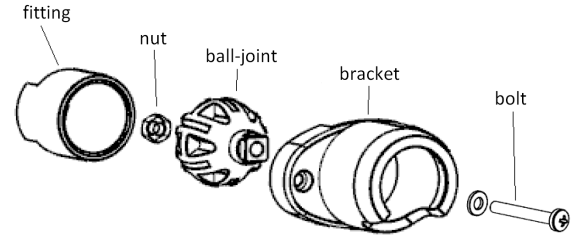

Figure 3: Mount Bracket Structure
4. Having selected the mounting location, mark the positions of the fixing holes on the wall taking into account positions of mounting holes in the rear housing or mount bracket (see Figure 3) and drill holes at the marked places.
7. Attach the rear housing or mount bracket at the selected location. For mounting with the swivel mounting bracket, unscrew the bolt from the ball-joint (see Figure 3) and align the square part of the ball-joint with the relevant notch in the upper part of the rear housing. Insert the bolt into the hole at the upper part of the rear housing, turn the rear housing to the proper position, and tighten the bolt.